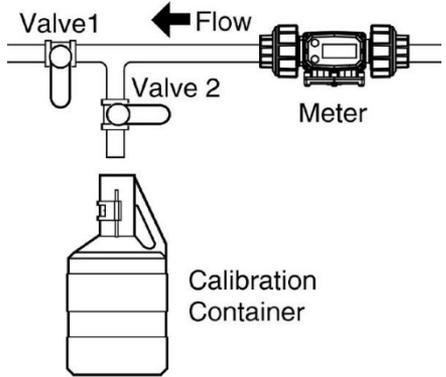

Figure 4
- Check accuracy after cleaning. See Figure 4 for bucket test method.